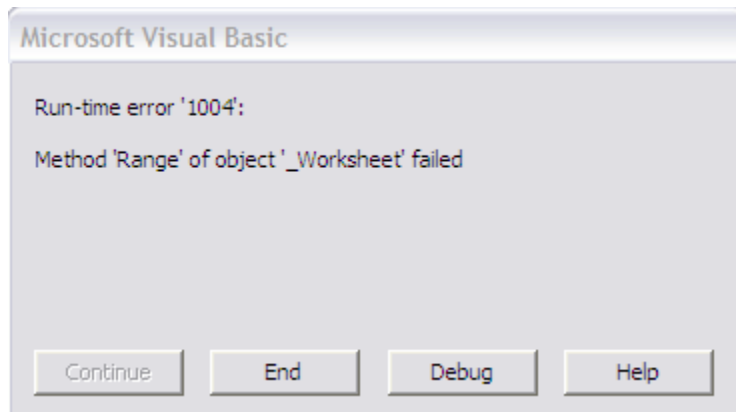

Figure D.1. Run-time error.
**3. Run-time Error:** If the pop up message appears as shown in figure D.1 click the **End** button to end the error. Then exit the tool and reopen it to ensure that the macros run properly.